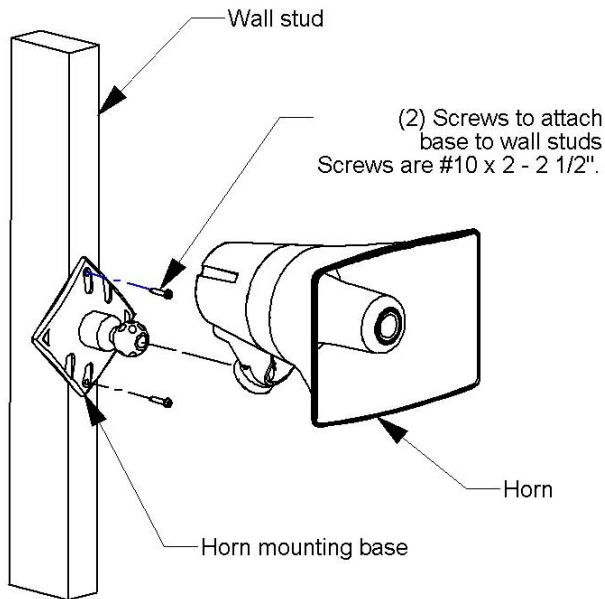

Figure 3. Mounting to Wall stud
- Mount the base to wall studs using the two holes provided. Knockout holes are provided for punch out should additional holes be desired. See Figure 3.